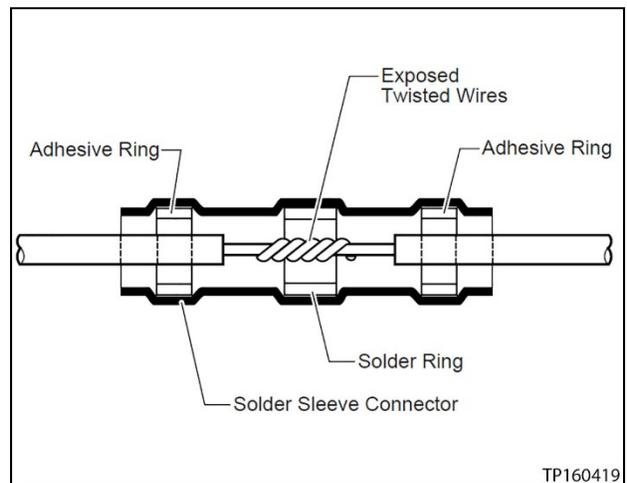

Figure 19
28. Slide the red solder sleeve over the twisted pair and position it so that the solder ring is over the two twisted wires as shown in Figure 19.